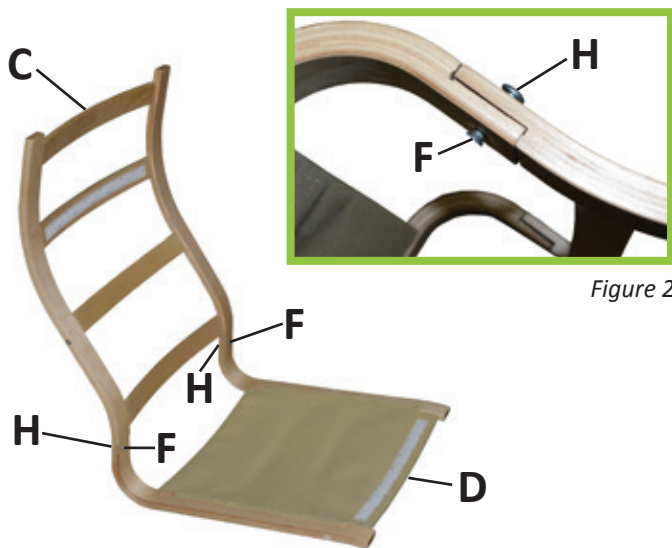

Figure 2
Attach Back Frame (C) to Seat Frame (D) using Small Bolts (F) and Threaded Flanges (H). Insert Small Screws (F) in the front of the chair, and Threaded Flanges (H) in the back. Tighten bolts with Allen Wrench (J). (See Figure 2.)